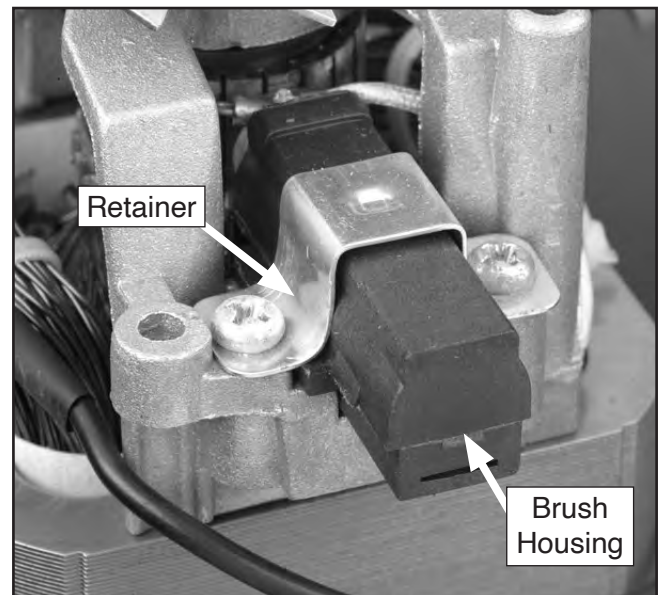

Figure 36. Retainer removal.
5. Using the Phillips screwdriver, remove the two retainer screws for each brush housing and remove the retainers (see **Figure 36**).